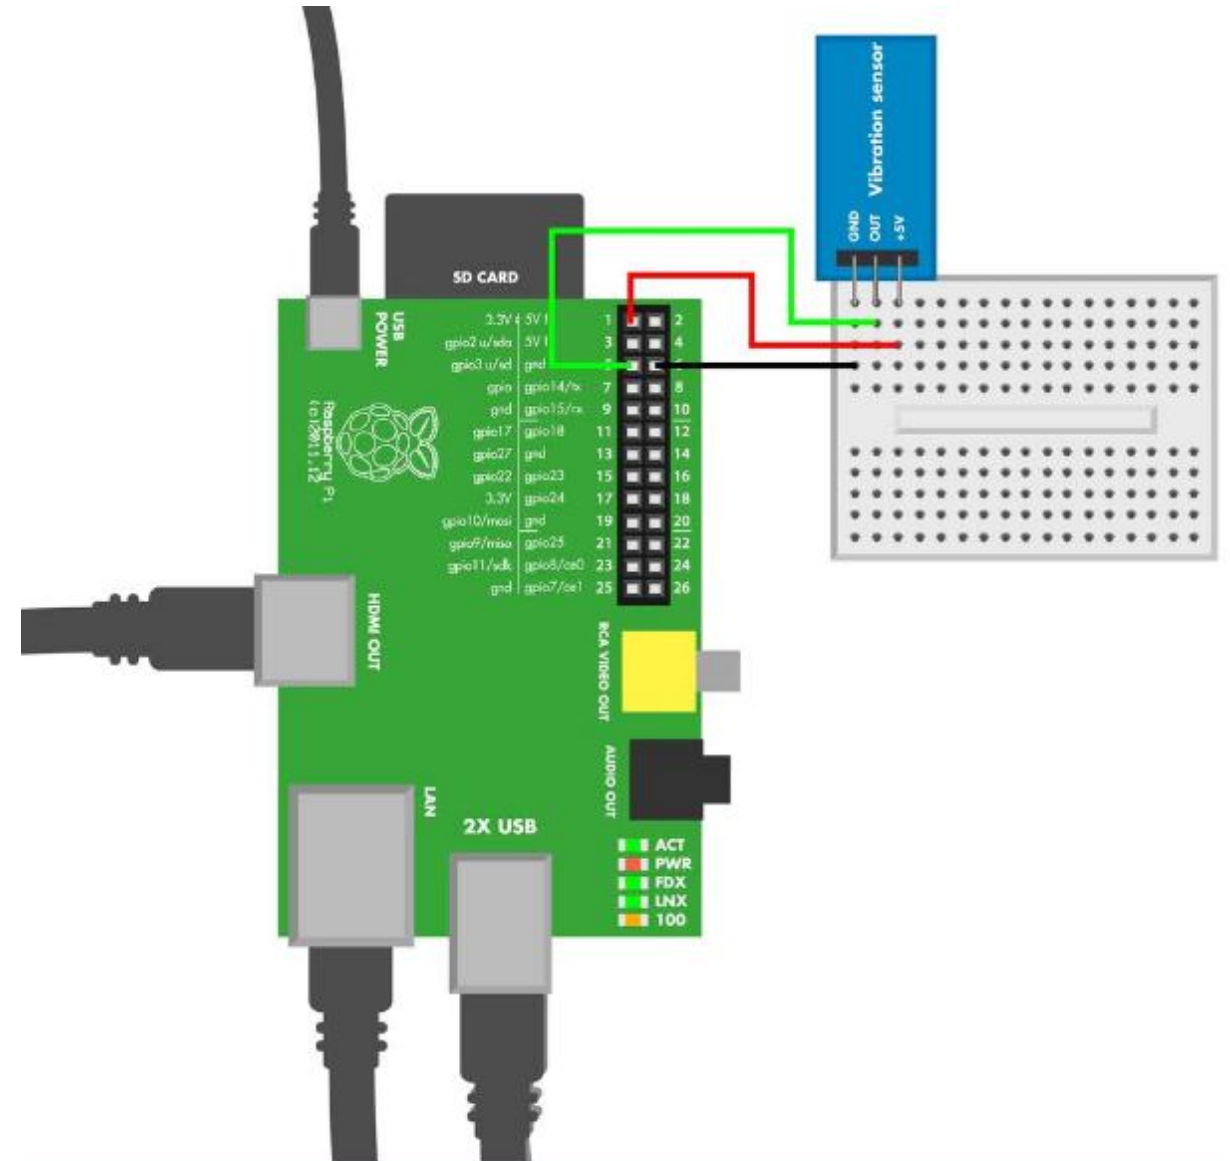

Figure 6-6. Vibration sensor circuit for Raspberry Pi
- Figure 6-6 shows the wiring diagram for the Raspberry Pi version of this sensor circuit.